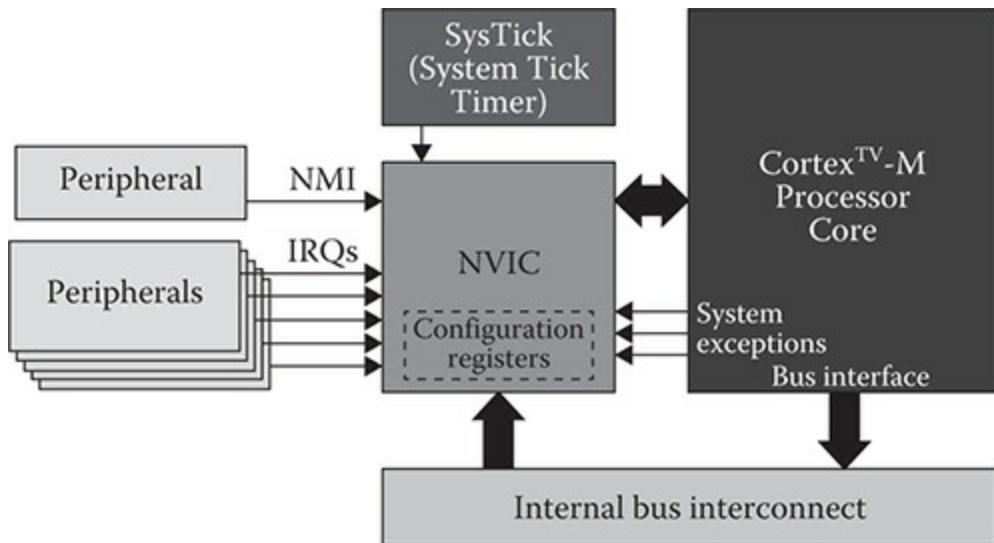

Figure 6-1 NVIC block diagram.
The ARM Cortex-M integrated peripheral (IP) contains a hardware device called the nested vector interrupt controller (NVIC) whose purpose is to manage exceptions. Figure 6-1 is a block diagram illustrating how the NVIC
You can see two types of wired connections in the left side of Figure 6-1. A single line labeled NMI stands for non-maskable interrupt and is used to allow a peripheral to signal the NVIC to unconditionally start the interrupt process. The other interrupt type is IRQ, which stands for interrupt request. This interrupt type can be masked, meaning that the NVIC does not have to immediately respond to an IRQ if a corresponding masking IRQ register bit has been set. There is usually only one NMI, but there are many IRQ lines that are dependent on the specific model NVIC capacity.